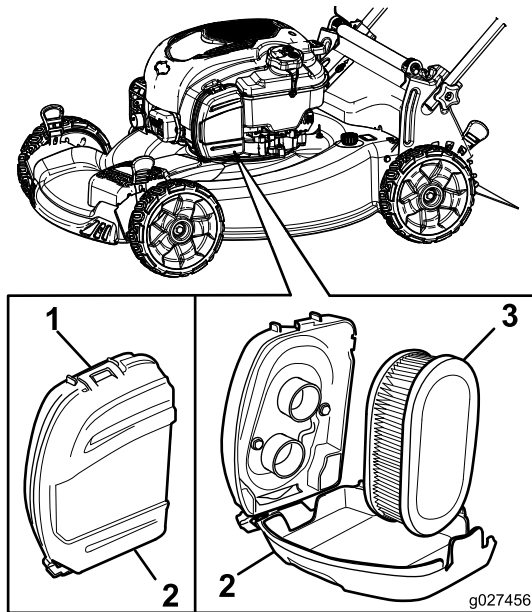

Figure 22
1. Upclip the top of the air-filter cover (Figure 22).
2. Remove the air filter (Figure 22).